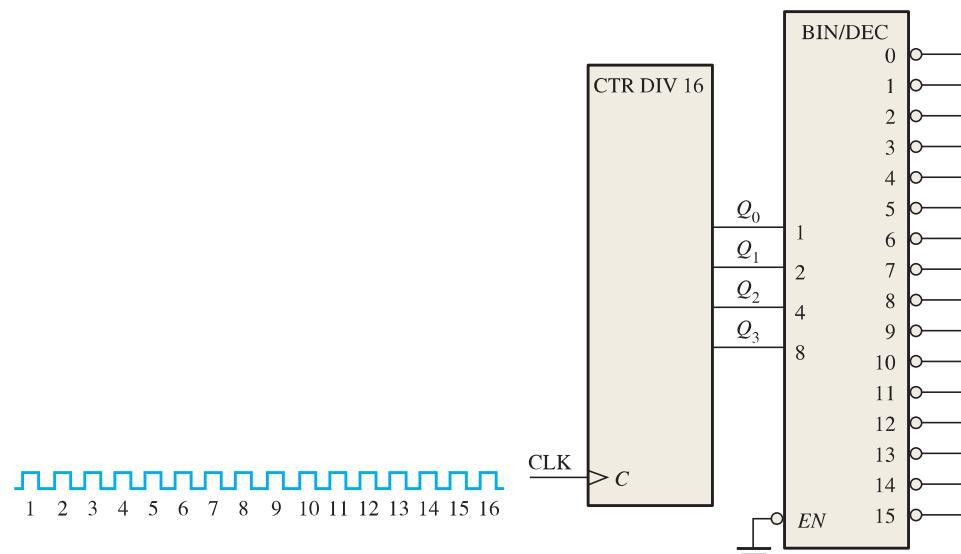

FIGURE 9–77
28. For the 4-bit binary counter connected to the decoder in Figure 9–77, determine each of the decoder output waveforms in relation to the clock pulses.